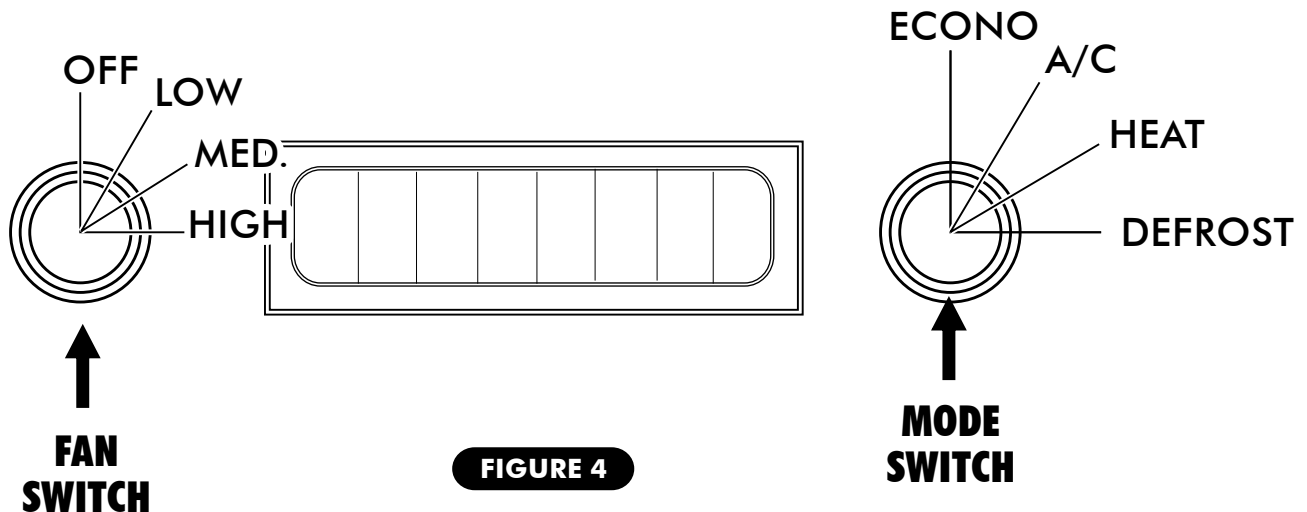

FIGURE 4
IF YOU ARE USING AN OPTIONAL CONTROL PANEL, REFER TO THE INSTRUCTIONS FURNISHED WITH THE PANEL FOR OPERATION. CHECK OPERATION (SEE FIGURE 4).
- START ENGINE AND RUN, UNTIL NORMAL OPERATING TEMPERATURE IS REACHED. PLACE SWITCH IN HEAT POSITION (SEE FIGURE 4, PAGE 8), AND SELECT FAN SPEED DESIRED. THE SYSTEM WILL HEAT THE VEHICLE. **IMPORTANT: BE SURE THE ENGINE THERMOSTAT HAS OPENED, AND THE APPROVED ANTIFREEZE MIXTURE HAS BEEN CIRCULATED THRU THE HEATER CORE BEFORE TESTING THE A/C MODES.**